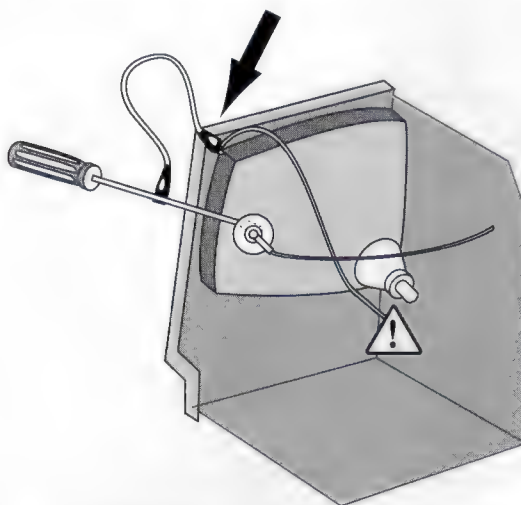

Figure 5 : Discharging the CRT anode
2. Attach the alligator clip of the CRT discharge tool to the metal part of the ground lug exactly as shown in Figure 5; *Do not clip onto the chassis.*